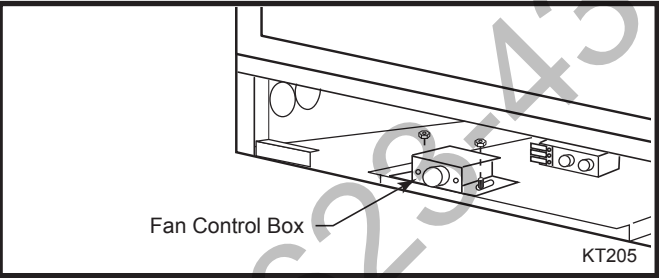

Fig. 31 Remove fan control box.
- a. Remove the Fan Speed Control Box. (Fig. 31)